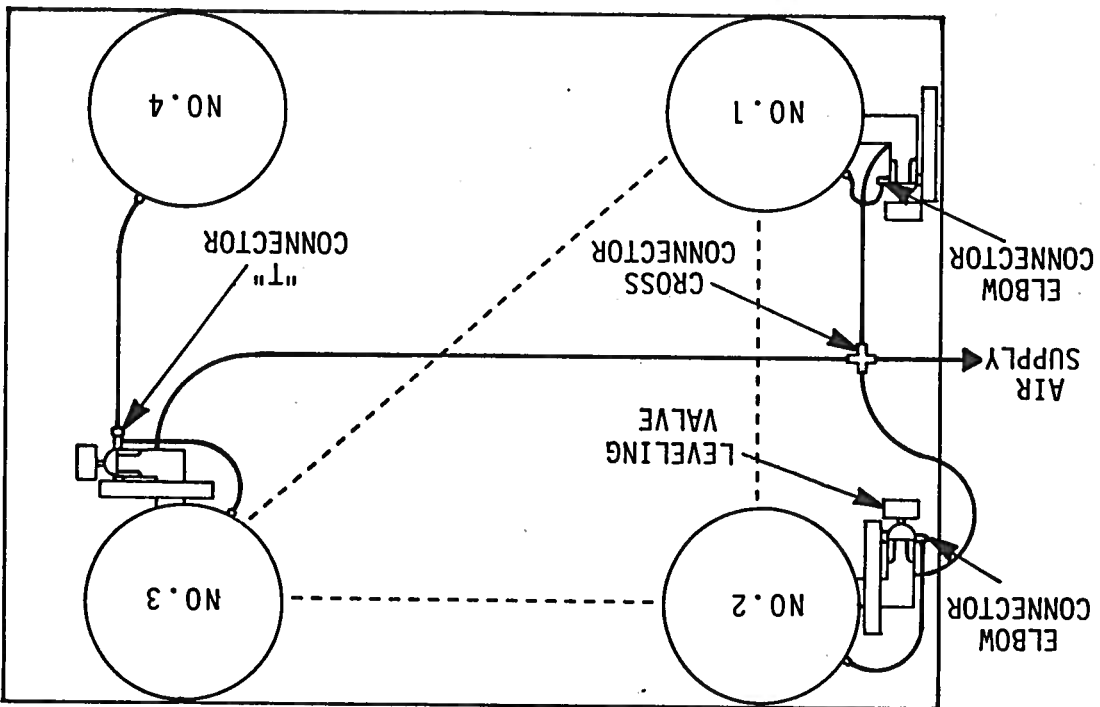

FIGURE 1a
12. The leveling valves are factory adjusted. If necessary, the flatness of the floor can be compensated by adjusting knob (L) of the leveling valves so that the table floats about 1/4 inch above the top of the legs. Adjustment of all three valves may be necessary to raise any one corner.
14. "Hunting" or oscillation would occur for heavy loads or loads with high center-of-mass. This problem is intrinsic with any soft spring-mass system. The solutions evolve around a combination of increasing the leg spacing, decreasing the load, lowering the center of mass, reducing the Q of the feedback system, and by increasing the spring constant. The feedback loop can be stabilized by restricting the air flow by decreasing the air supply pressure and also by closing down the metering valve (V). It is necessary to contact Newport in order to increase the spring constant. Occasionally instability is caused by wrinkles in the diaphragm due to twisting of the pistons during installation. Repositioning the load towards the center of the table also helps stabilizing the system.
- a. Adjust the height adjustment knob (L) so the table floats as close as possible to the isolation mounts, approximately 1/8 inch.
- b. Adjust high center of mass loads as close to the center of the table as possible. If an off center load is unavoidable, adjust the load within the triangle transcribed by the three isolation mounts with air control valves mounted (see Figure 1A).
- d. Adjust the metering valve knob (V) on isolation mount No. 1 (Figure 1A) open 1/16 to 1/8 turn.